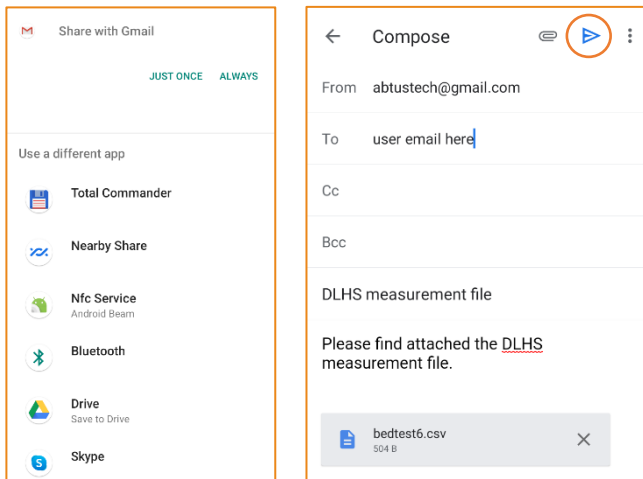

Figure 14 – Emailing .csv results
- i. Pressing **'Share'** will open the screen shown in Figure 14, prompting the user to choose a program to share the files with. The S42 supplied with DLHS gauge comes with **'Gmail'** as the default option. Press either of the options available; **'Just Once'** or **'Always'**.